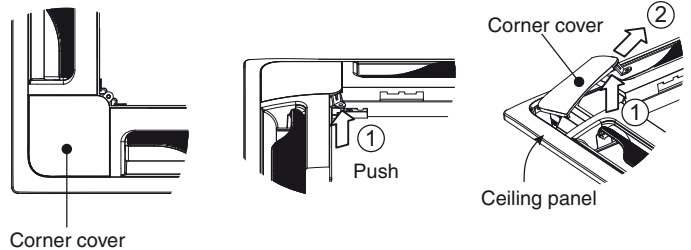

Fig. 7-6
- (2) Removing the corner cover.
- a) Slide the latches in the direction of the arrow ① to disconnect the hinges (3 locations). Then, remove the air-intake grille in the direction of the arrow ②. (Fig. 7-6)